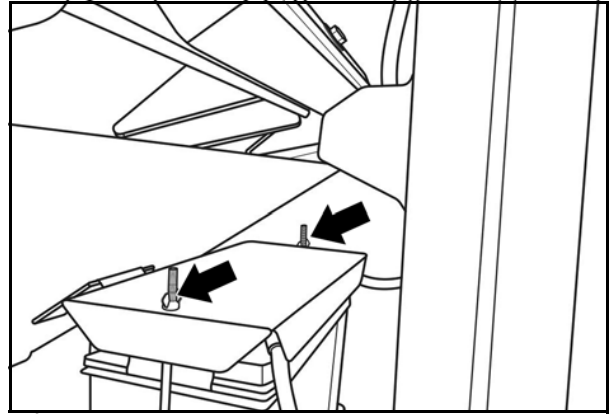

FIG. 78
2. Remove the wing nut (arrow) of the battery protective cover and remove the cover. (Fig. 78)